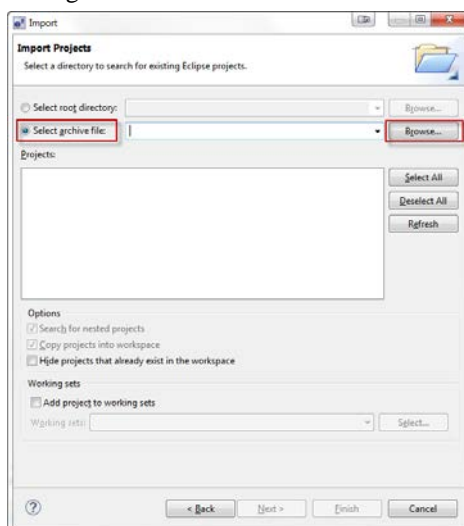

Figure 2.8 Import Existing Project dialog 1
7. Click **Select archive file** as shown in Figure 2.8.